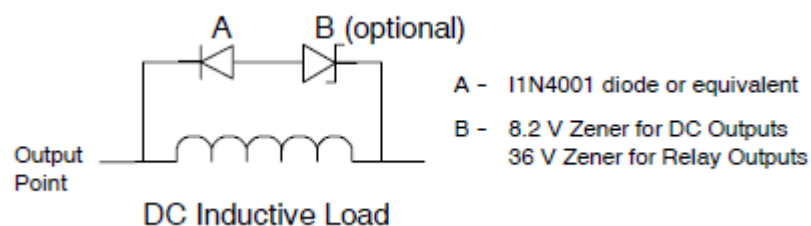

Figure 3-4 Suppression Circuit for DC Load
Figure 3-4 shows a sample suppression circuit for a DC load. In most applications, the addition of a diode (A) across the inductive load is suitable, but if your application requires faster turn-off times, then the addition of a Zener diode (B) is recommended. Make sure the Zener diode can provide enough current for output circuit.